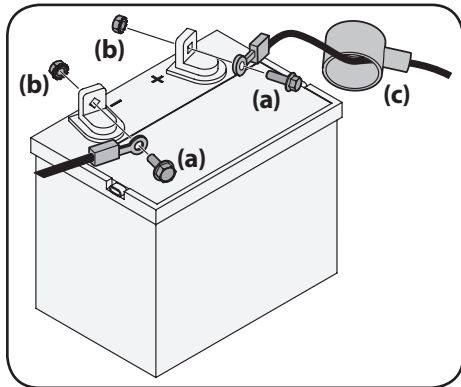

Figure 2-2
1. Remove the plastic cover, if present, from the positive battery terminal and attach the red cable to the positive battery terminal (+) with the bolt (a) and hex nut (b). See Figure 2-2.
2. Remove the plastic cover, if present, from the negative battery terminal and attach the black cable to the negative battery terminal (-) with the bolt (a) and hex nut (b). See Figure 2-2.